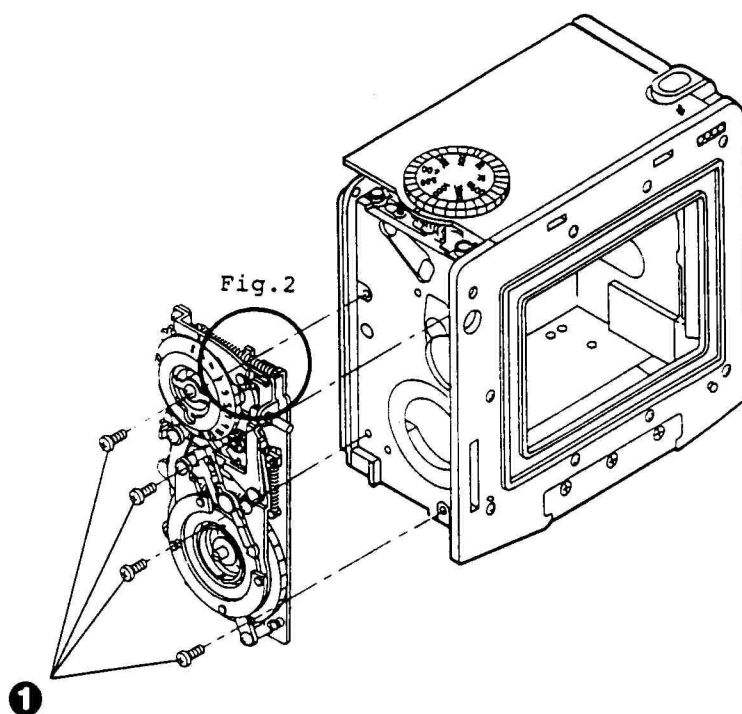

Fig. 1
1. Remove four screws ①. (See Fig. 1.)